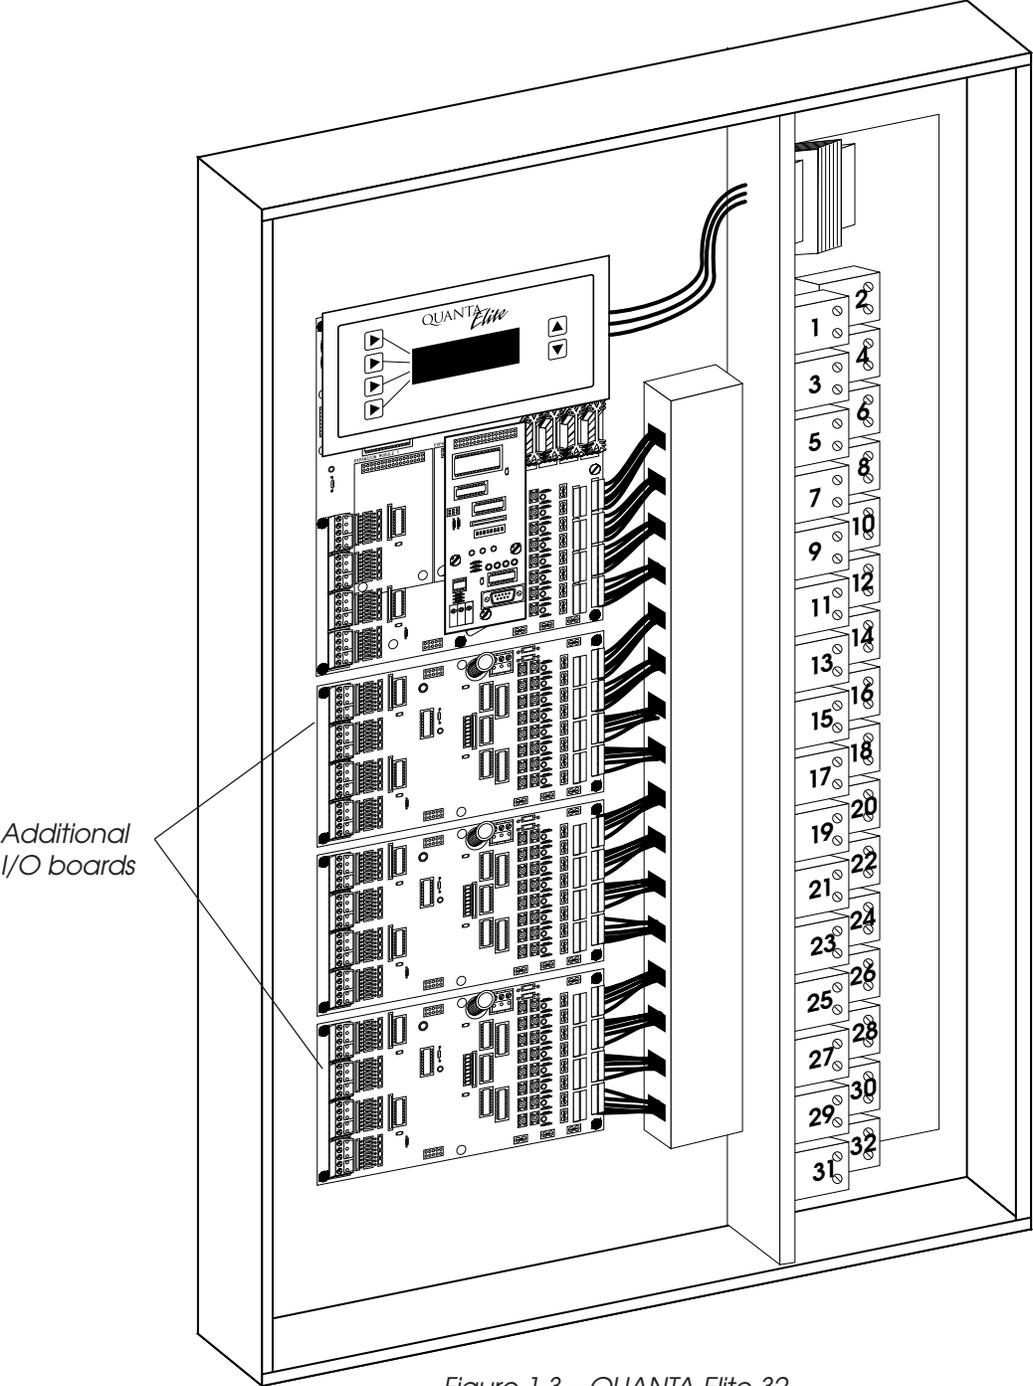

Figure 1.3 – QUANTA Elite 32
1.1.4 Additional I/O Board(s) – Additional I/O boards composed of 8 inputs and 8 outputs can be added to the appropriate size enclosure to expand the controller capacity up to 48 switch inputs and 48 switch relay outputs. (See Figure 1.3, which illustrates a QUANTA Elite 32.)